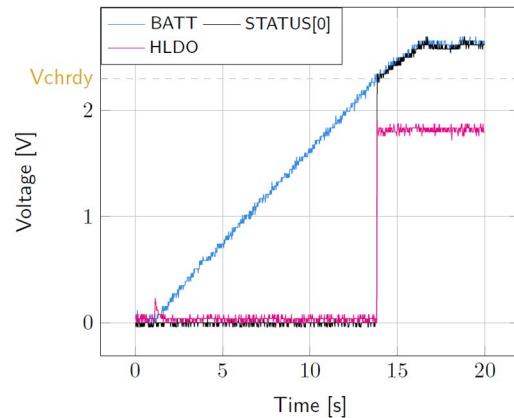

Figure 2: **STATUS[0]** and **HLDO** evolution with **BATT**
- **BATT**: Voltage rises as the power provided by the source is transferred to the storage element (see Figure 2).
- **HLDO/LLDO**: regulated when voltage on BATT first rises above V_{chrdy} (see Figure 2).
- **STATUS[0]**: Asserted when the LDOs are ready to be enabled (refer to Section 7.2 “Normal mode” of the AEM10941 datasheet) (see Figure 2).